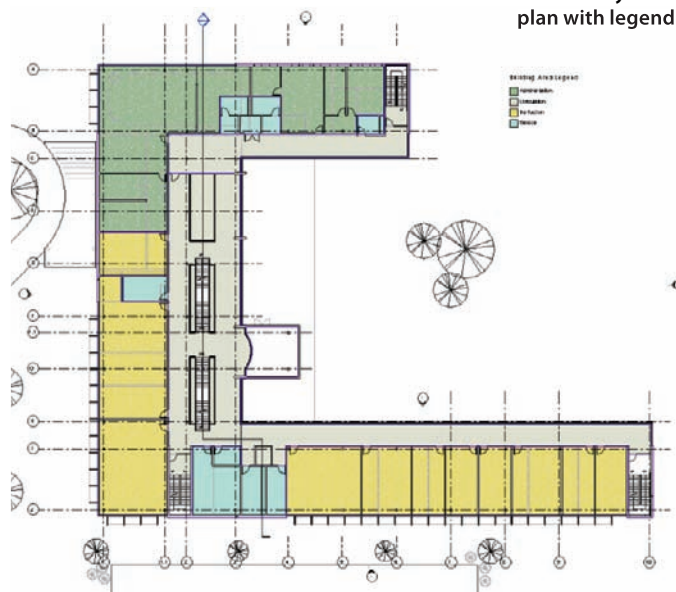

Figure 11.14
9. Place the legend in the upper-right corner of the view, as shown in Figure 11.14.